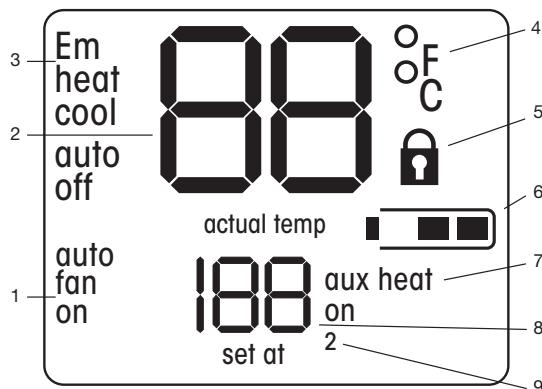

Fig. 2 — Thermostat On-Screen Indicators
**Thermostat On-Screen Indicators** — The following on-screen indicators can be displayed on the thermostat display. See Fig. 2 for location of indicators.
- Fan mode - on (F1, F2 and F3) or auto (1)
- Current temperature (2)
- Mode (3)
- Fahrenheit or Celsius units (4)
- Keypad is locked (no padlock means unlocked) (5)
- Battery strength indicator (6)
- Auxiliary heat (not used with this thermostat) (7)
- Current set point (8)
- Second stage is active (cooling or heating if available) (9)